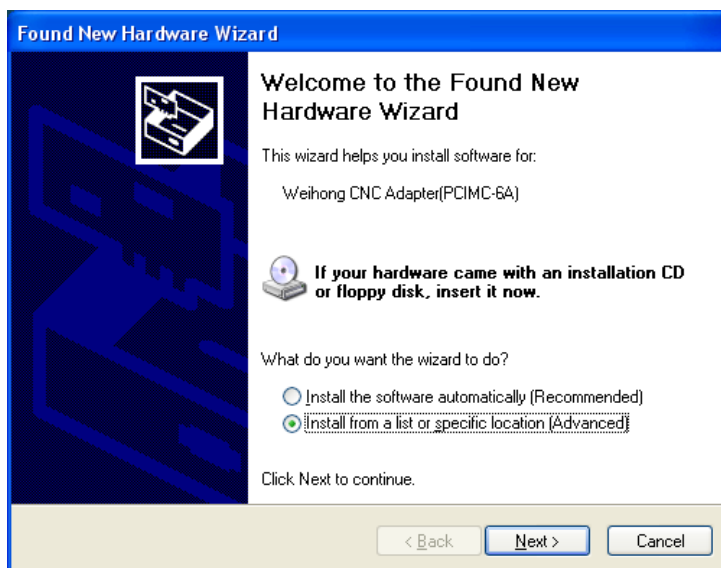

Fig. 4-1 Beginning of driver update
- 1) Right click "My Computer", select "Properties", and click "Device Manager" under "Hardware" tab in the "System Properties" window. And then find "CNC Adapters" in the pop-up "Device Manager" window, right click the option under "CNC Adapters", and select "Update Driver..." to start updating the hardware driver. A new window appears, as shown in Fig. 4-1.